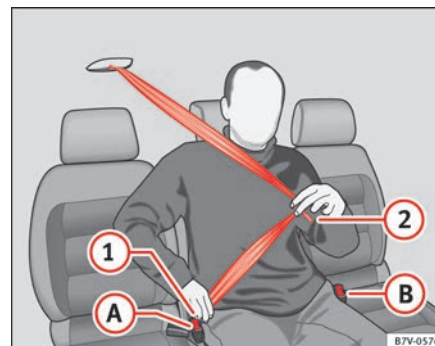

Fig. 12 Fasten the seat belt on the centre seat in the second row of seats.
- Use latch plate of the belt ⇒ fig. 12 ① to pull the seat belt down. Do **not** twist the seat belt when doing so ⇒ .
- Engage the latch plate ① in the buckle of the corresponding seat A.
- Use the latch plate ② to pull the seat belt across your lap.
- Engage the latch plate ② in the buckle of the corresponding seat B.